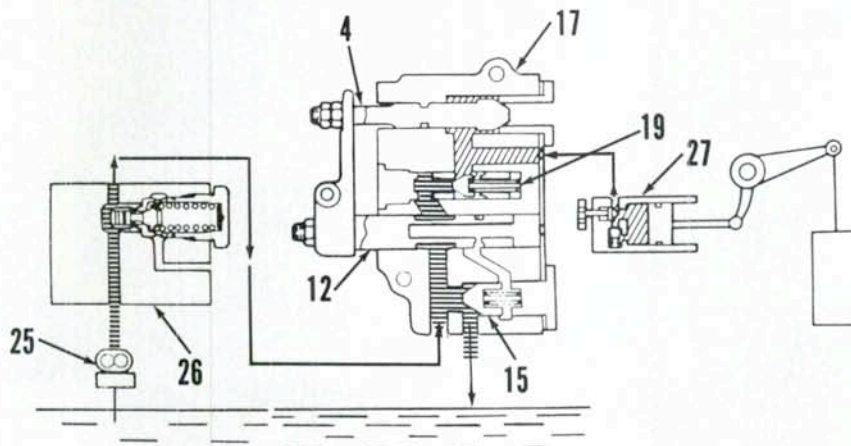

Fig. 282—Cross section of single lever position control valve showing oil flow in "neutral" position.
In “neutral” position (Fig. 282), the control valve spool (12) is centered in valve body. Pump oil flow is directed to front of unloading valve (15), which opens and returns pump flow to reservoir. Oil in the lift cylinder is trapped by the check valve (19) and poppet valve (4),